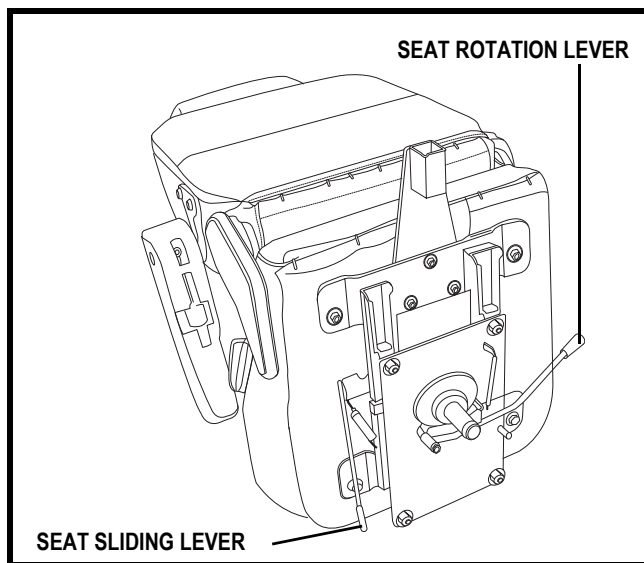

Figure 16A. Seat Adjustment Levers
1. Push forward on the seat rotation lever to disengage the seat. See figure 16A.
You can reposition the seat forward or backward to adjust the distance between the seat and the tiller. See figure 16A.